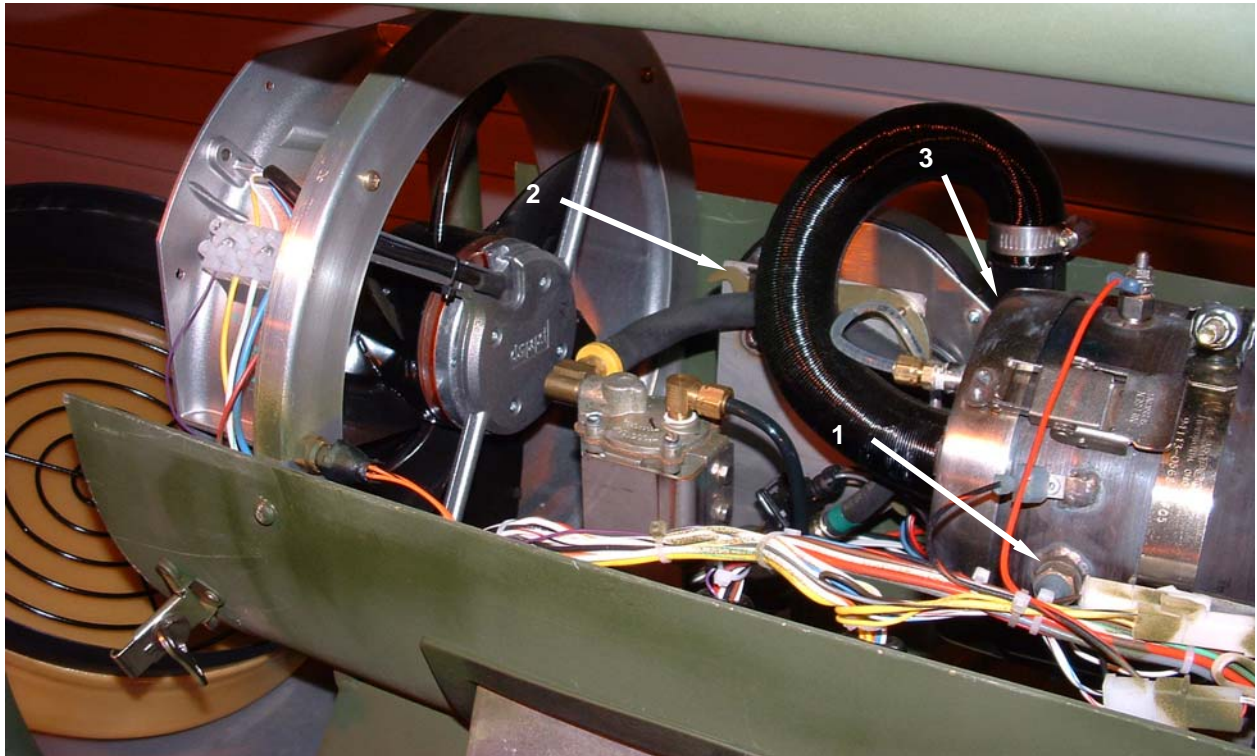

Figure 2. Replacing Flame Sensor – Interior.
6. Disconnect electrical connector from the inoperative flame sensor (**Figure 2, Item 1**).
7. Use the wrench (**Figure 2, Item 2**) supplied with the heater, unscrew flame sensor (**Figure 2, Item 1**) in counterclockwise direction from burner assembly (**Figure 2, Item 3**).
8. Use the wrench (**Figure 2, Item 2**) to remove new flame sensor (**Figure 1, Item 9**) from spare storage area at the breathable air inlet end of the heater.
9. Screw new flame sensor (**Figure 2, Item 1**) in clockwise direction into burner assembly (**Figure 2, Item 3**).
10. Tighten securely with wrench (**Figure 2, Item 2**).
11. Reconnect electrical connector to the flame sensor (**Figure 2, Item 1**).